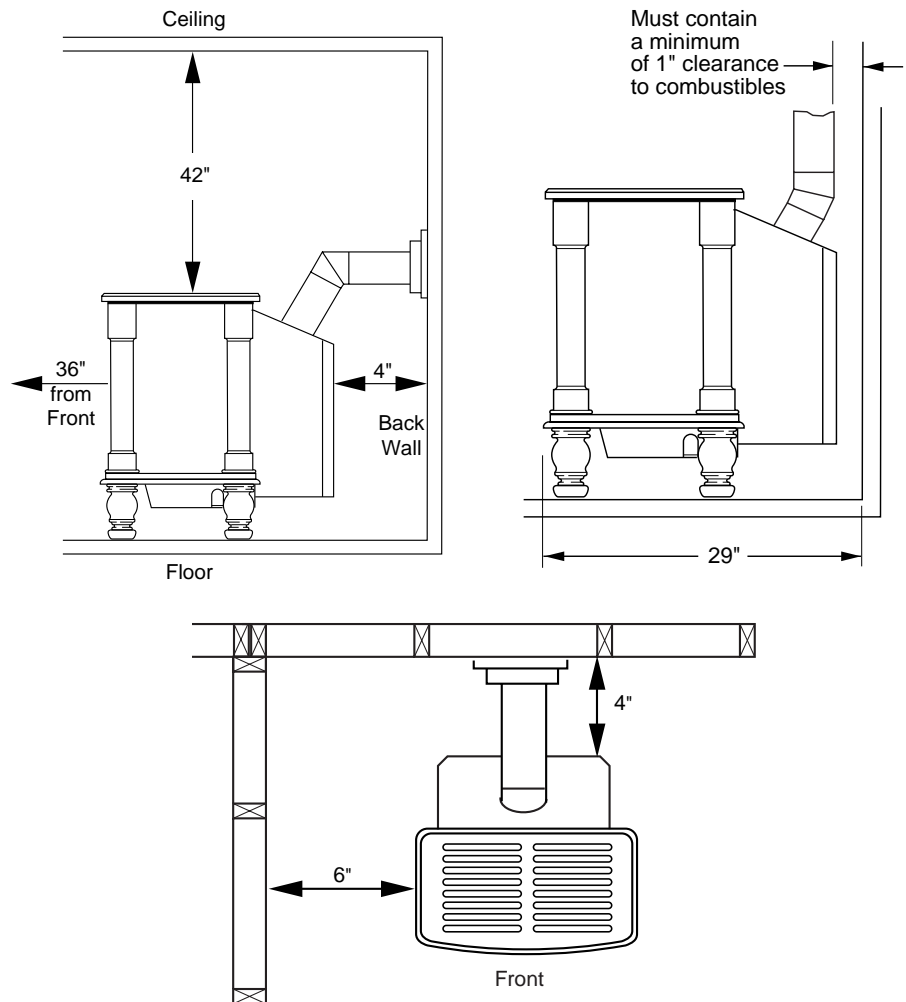
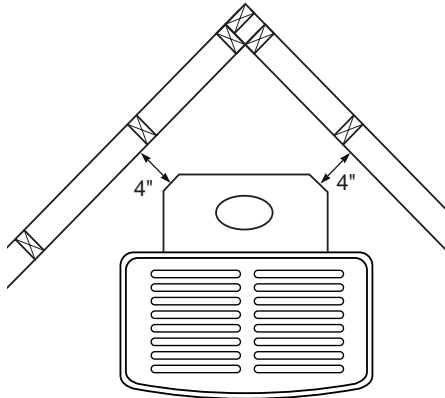

Figure 3 - Clearances for Standard Installation
Figure 4 - Clearance for Corner Installation
3. Proper clearances must be maintained, see Figure 3 and Figure 4 on page 5.
- You must maintain minimum wall and ceiling clearances shown in Figures 3 and 4, pages 4 and 5.